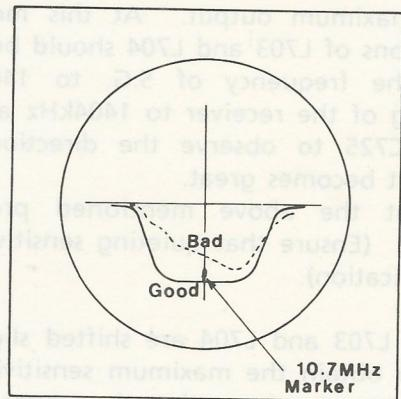

Fig. 7
- (c) Align F601 in order that the waveform of the oscilloscope may be the same as that shown in Fig. 7. The amplitude of the waveform should be maximum and symmetrical with respect to the vertical axis, and the end portion should be round shaped.